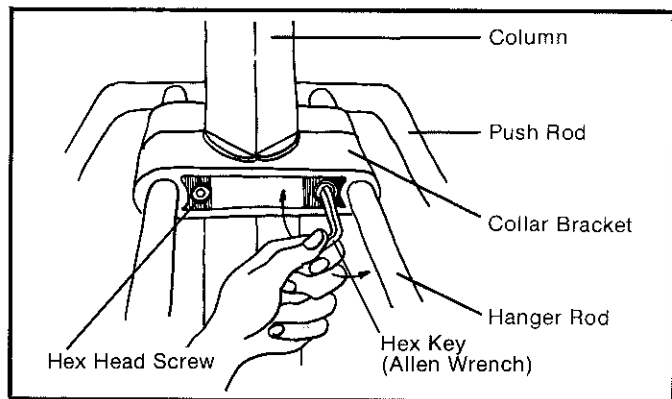

Figure 2-1
4. Adjust collar bracket height to provide desired seat location, if location other than as shipped is required. A 5/16" Allen® wrench will be required. Loosen hex head screw, Figure 2-1, and slide height adjustment collar on column until desired position is reached, tighten screws securely. Check height by running lift to its upper and lower-most position before proceeding. If the bottom of the chair hits the bottom of the tank or tub, adjust position so bottom of chair is at least 1" above bottom of tank at its lowest position.